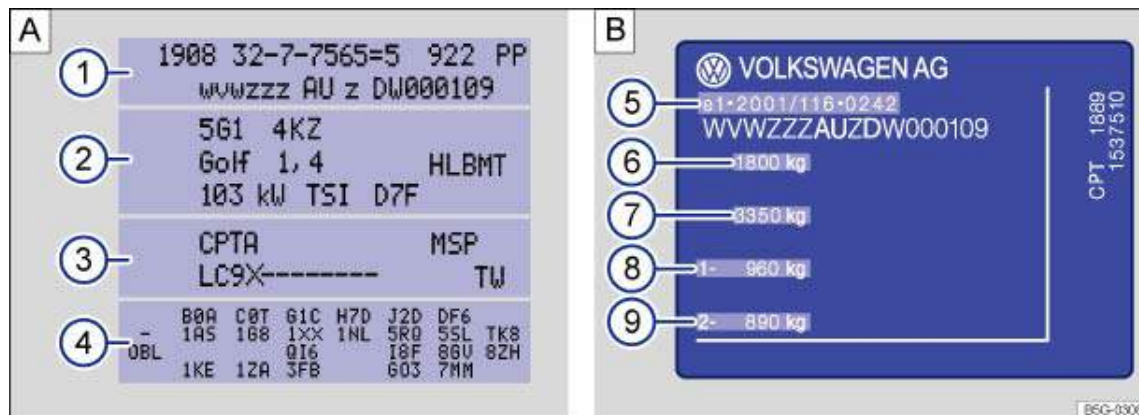

Fig. 19 A: vehicle data sticker: example shows a vehicle with engine code CPTA ③. B: type plate
The vehicle data sticker → Fig. 19 A is in the spare wheel well area in the luggage compartment. It contains the following data:
- 3 Engine and gearbox code, paint number, interior equipment. In the example, the engine code is CPTA → Fig. 19.
The type plate → Fig. 19 B can be seen on the lower part of the door pillar when the door is open. Vehicles for certain export countries do not have a type plate.